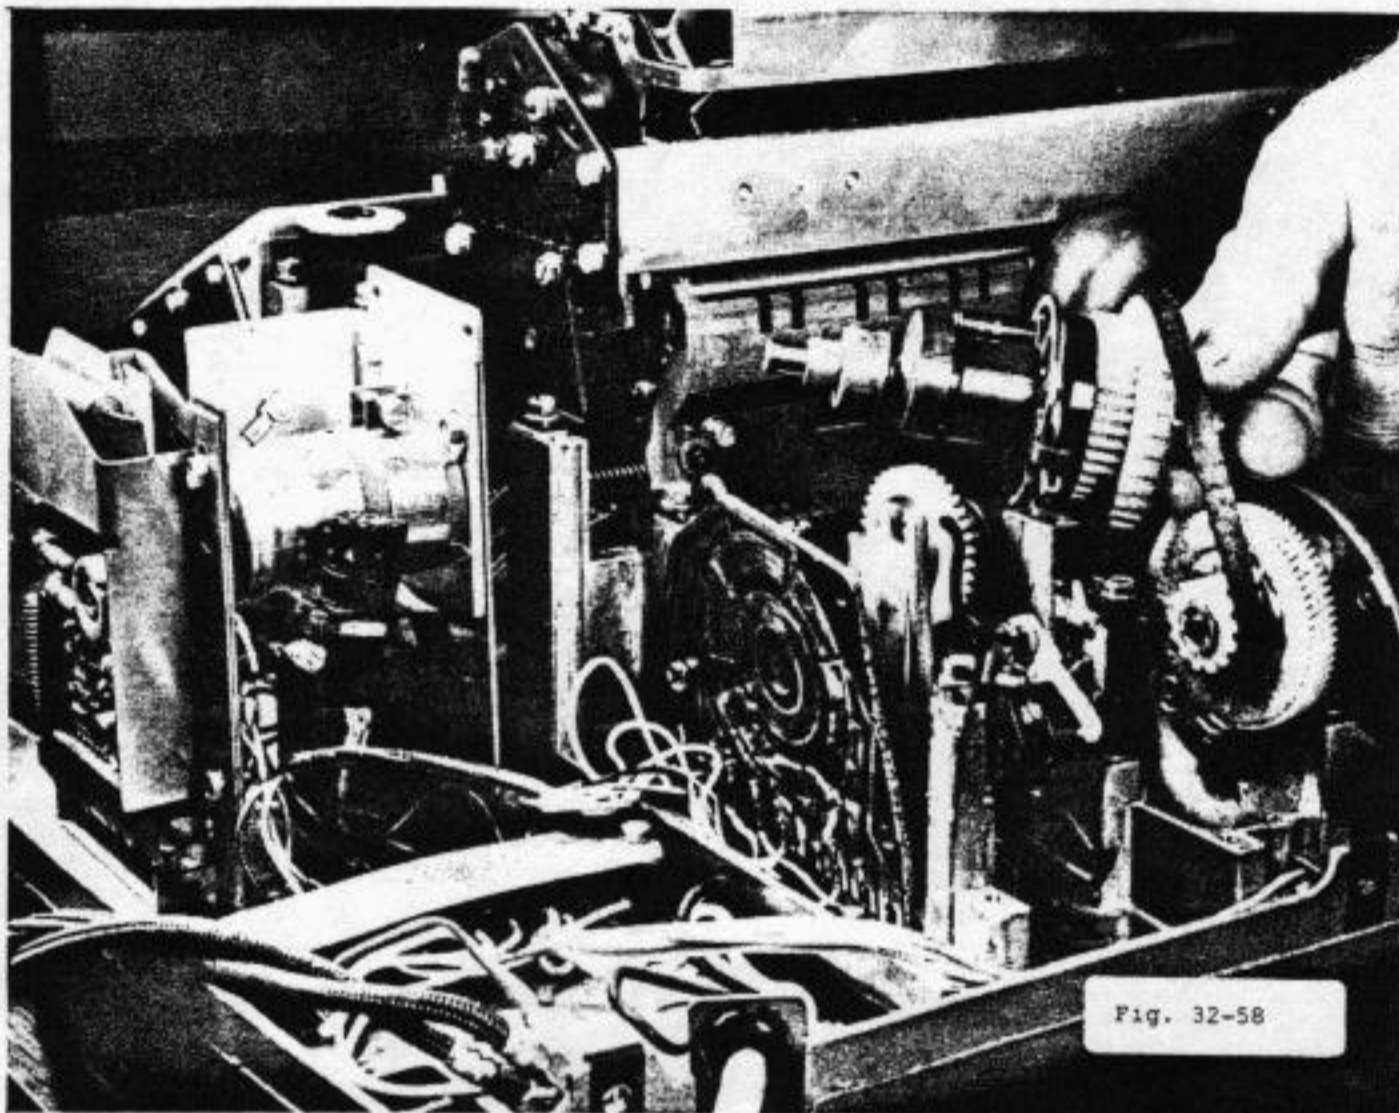

Fig. 32-58
7. Pull out the distributor shaft assembly according to Fig. 32-58.